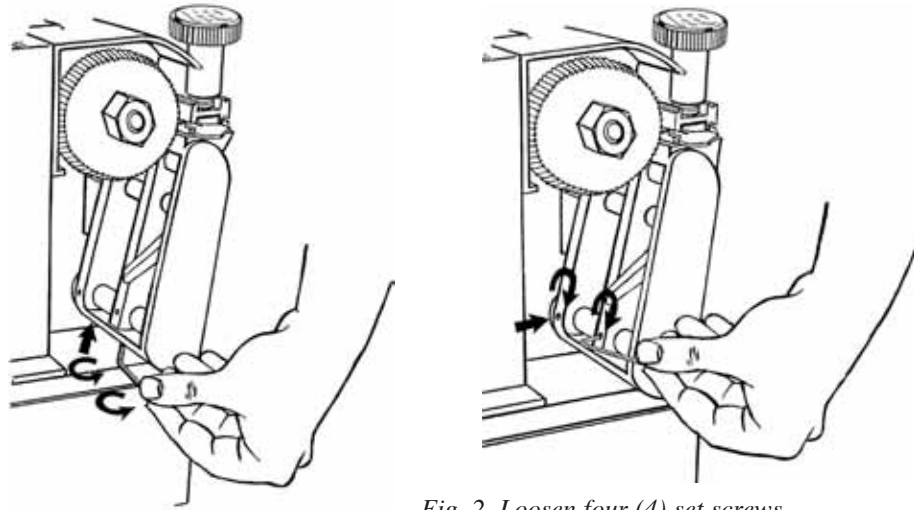

Fig. 2. Loosen four (4) set screws
- 8) If the cutter is too far from the tip of the original key, use a 5/64 inch allen wrench to loosen the four set screws on the lower inside and bottom of the Pivot Arm (CM-1024X) (see Fig. 2).